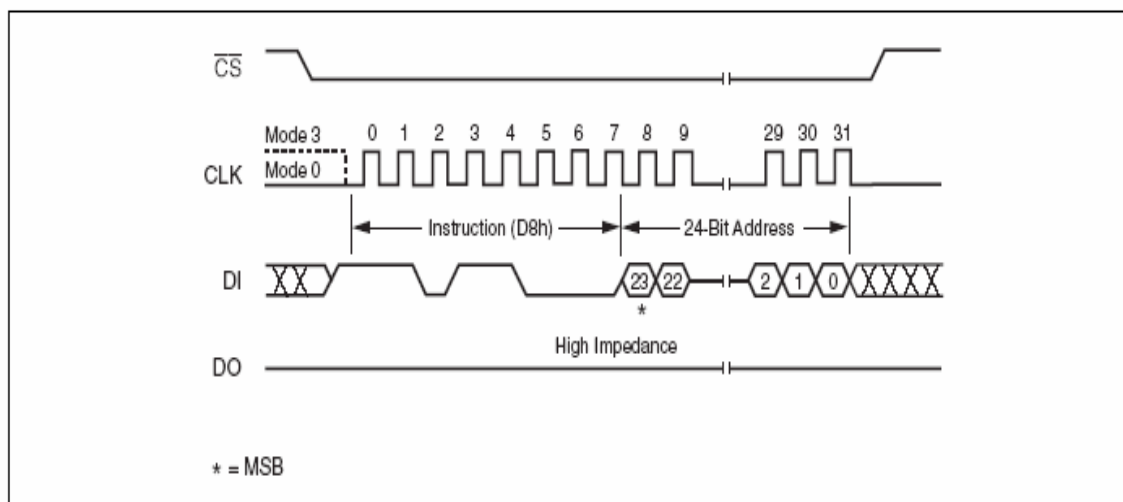

Figure 12. Sector Erase Instruction Sequence Diagram
The instruction sequence is shown in Figure 12.. Chip Select ( $CS\#$ ) must be driven High after the eighth bit of the last address byte has been latched in, otherwise the Sector Erase (SE) instruction is not executed. As soon as Chip Select ( $CS\#$ ) is driven High, the self-timed Sector Erase cycle (whose duration is  $t_{SE}$ ) is initiated. While the Sector Erase cycle is in progress, the Status Register may be read to check the value of the Write In Progress (WIP) bit. The Write In Progress (WIP) bit is 1 during the self-timed Sector Erase cycle, and is 0 when it is completed. At some unspecified time before the cycle is completed, the Write Enable Latch (WEL) bit is reset.